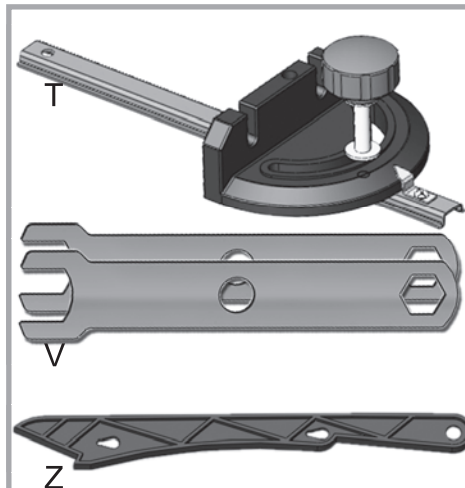
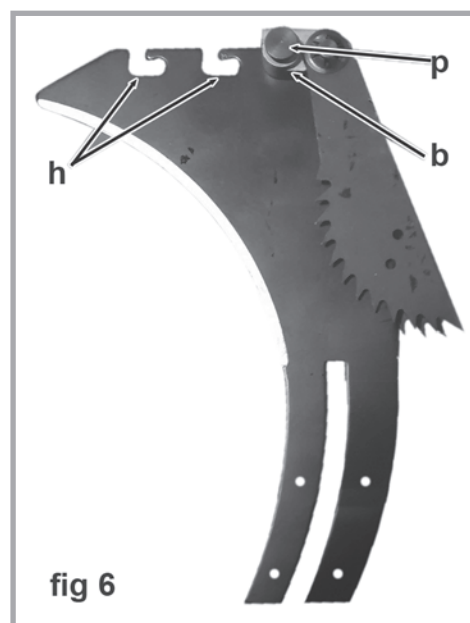
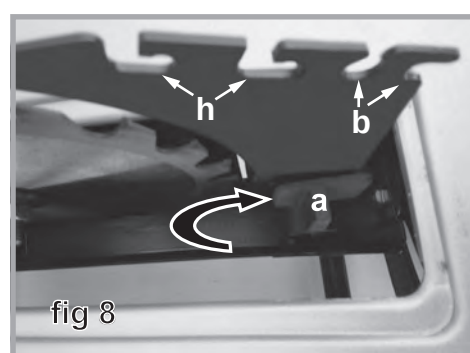

fig 2 ACCESSORIES
fig 6
fig 8
- the riving knife (shown with the anti-kickback pawl assembly attached-fig 6).
13. When the riving knife is fully inserted and seated firmly, tighten the lock lever (fig 8) to clamp it in place.
14. Place the transparent guard assembly on top of the riving knife so that the slot in the guard's support bar engages the two hooks (h, fig 8) along the top edge of the knife, just ahead of the attachment bracket for the anti-kickback pawls (b, fig 8). You will have to loosen the lock knob (k, fig 5) at the back of the guard assembly support bar.
16. Attach the anti-kickback pawls at (b, fig 8) as shown in fig 6.
17. Should it be necessary during a particular cutting operation to temporarily remove the anti-kickback pawls from the guard assembly, they can be removed by pulling the lock pin (p, fig 6).
2. Assemble Bracket 153 (Fig 1) and Bracket 166 (Fig 2) to look like (Fig 3).
3. Using Smaller Bolts (Fig 4) and Large Cushion Blocks (Fig 5) Attach Bracket 153 (Fig 1) to Bracket 166 (Fig 2) as shown in Fig 6.
3. Attach Bracket 158 in Fig 7 to the resemble Fig 8.